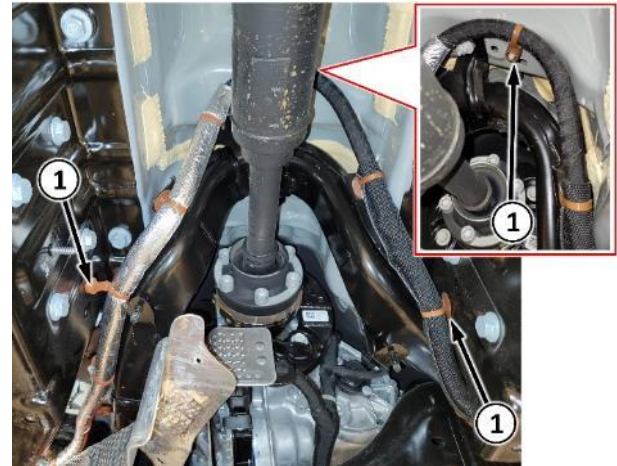

Figure 46 – HV Battery Harness
30. Release the wire harness retainers (Figure 46).
60. Install the wire harness retainers (Figure 46).